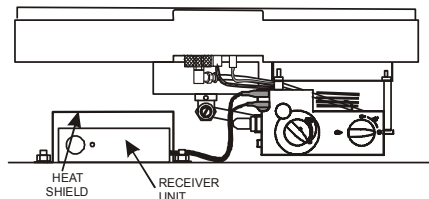

Figure 59
4. Position the receiver under the heat shield as shown in **Figure 59**.